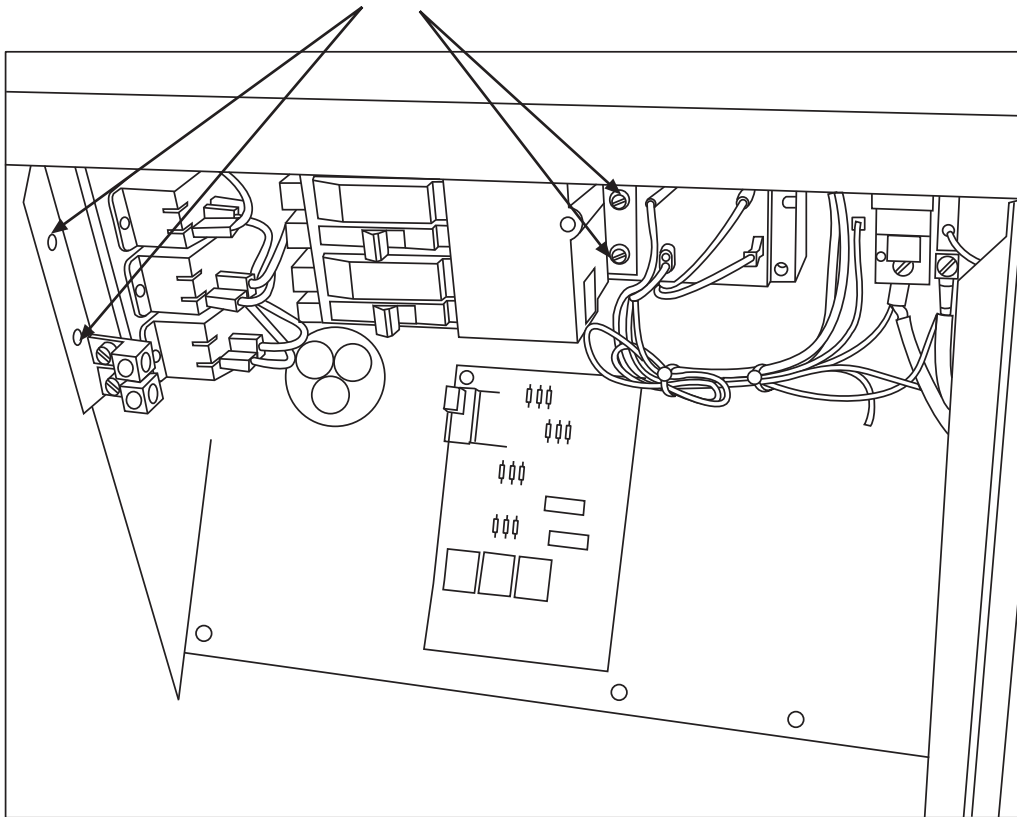

Fig. 5 - Heater Control Panel Installation
- Rotate heater control panel into unit control box area and locate it into top left corner of control box; secure heater control panel to unit control box with (4) screws provided (See Fig. 5).
- Open flexible “fishpaper” insulation cover provided with unit control box and route heater low voltage wires along the bottom of the unit control box. Route low voltage leads from heater relay(s) through hole in unit control box and into low voltage splice box. (See Fig. 5 and 6.) dress wires and secure them to existing unit control wires with wire ties provided (See Fig. 6).